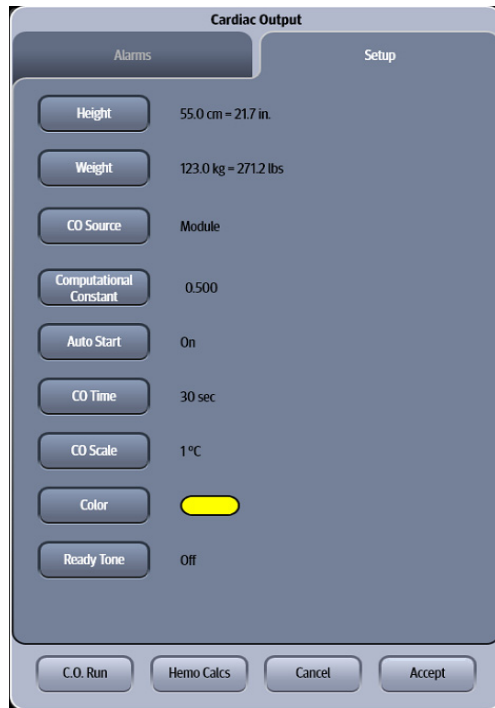

FIGURE 18-3 Example Cardiac Output Dialog (Setup Tab)
2. Select the **Setup** tab (as shown in FIGURE 18-3).